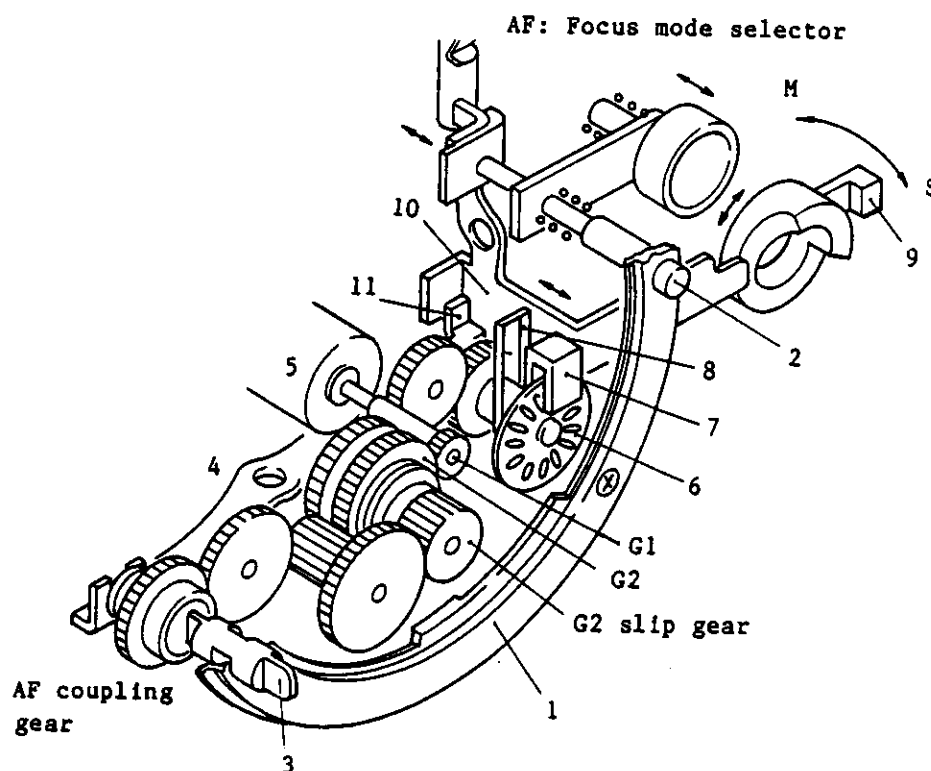

Fig. 1
Fig. 1 shows a schematic diagram of the AF control mechanism as viewed from the front of the camera. [AF (S) mode] #1 is the bayonet mount of the camera on which the lens is mounted. The mounting position of the lens is determined by the stopper pin (#2) to which the lens optical driving coupling is attached. #3 is the AF coupling lever on the camera which connects to the motor (#5) through a reduction gear system (#4). Focus adjustment is made by this motor.